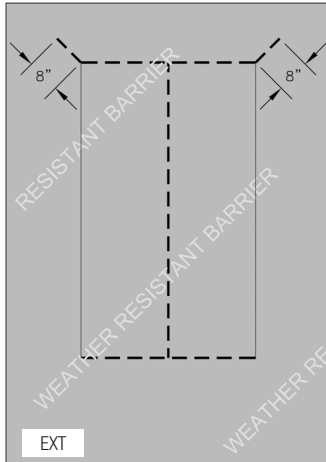

FIG. 3
- G) Make an "I-Cut" in the weather-resistant barrier (WRB). Begin with a horizontal cut along the bottom and the top of the rough opening. Then make a vertical cut in the center from top to bottom. (Fig. 3)